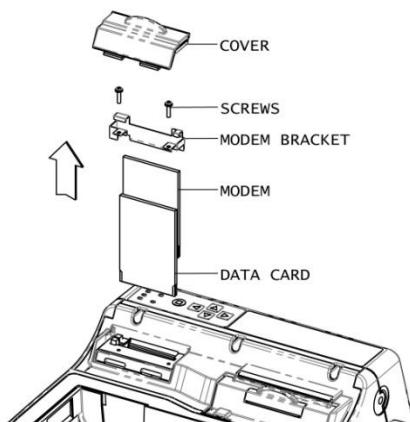
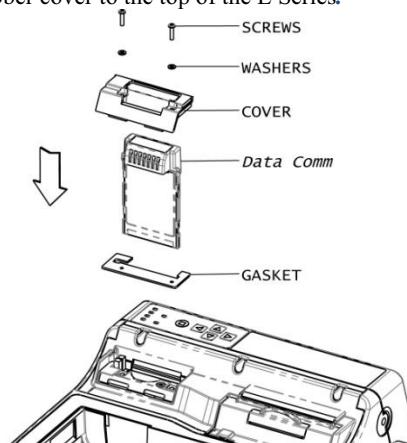

Figure 1
Figure 2
IP32	Protected against ingress of solid foreign objects ≥ 2.5mm in diameter. Protected against dripping water when installed as shown in Figure 2.
- The Data Comm card is protected against dripping water when installed as shown in Figure 2. The Data Comm card will stop recording and transmitting data if exposed to extensive moisture.
The existing rubber cover, PCMCIA data cards and modem cards must be removed (see Figure 1 below). Carefully remove the paper backing strip from the adhesive gasket. (**Note:** The adhesive is extremely sticky and will be difficult to reposition once applied.) Align the gasket with the top surface of the card slot and the screw holes for the modem bracket as shown in Figure 2 below and press the gasket in place. The Data Comm card is then installed in the rear most card slot on the E Series when facing the front of the device (see Figure 2 below). Make sure the Data Comm card is fully seated in the card slot. The new rubber cover is then fit down over the top of the Data Comm until it is firmly in place. Two screws, with washers, are used to secure the rubber cover to the top of the E Series.